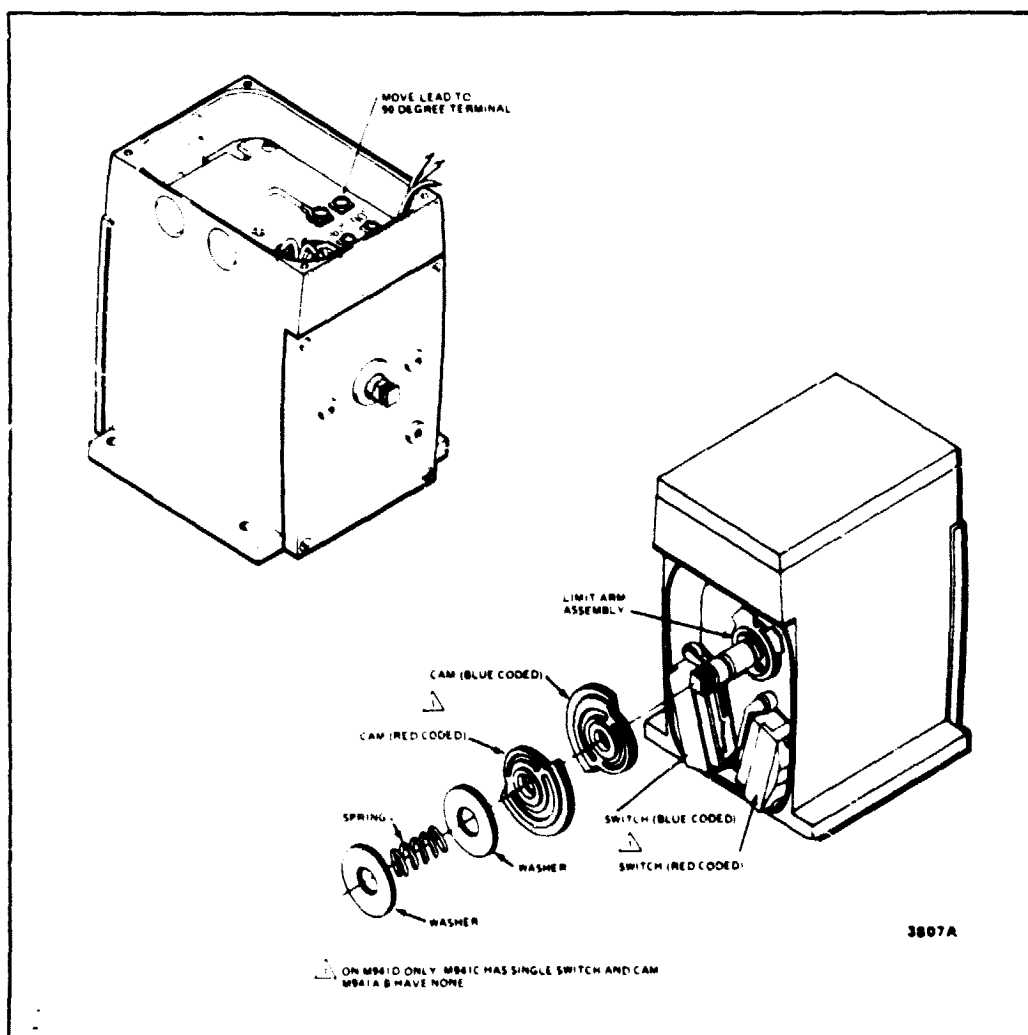
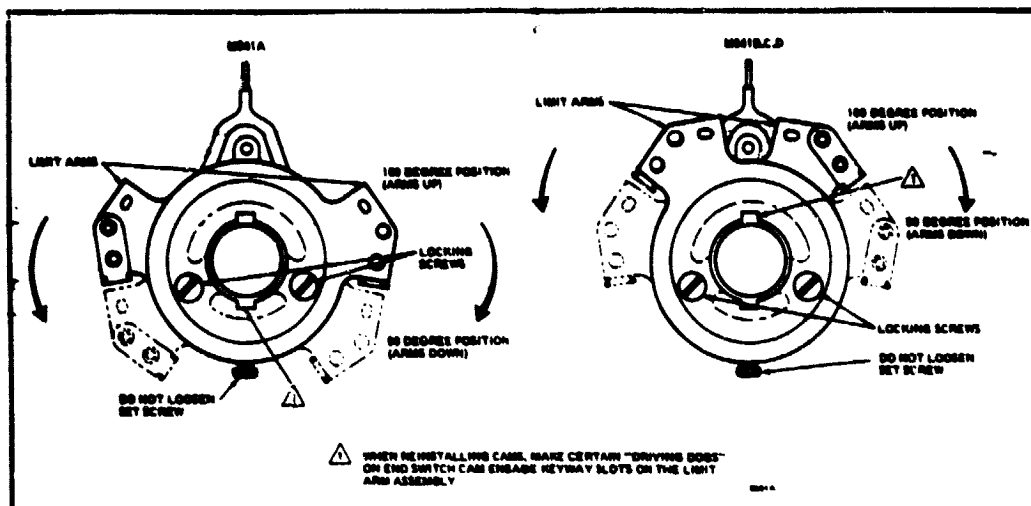

Fig. 1—Terminal connection; cam assembly.
FIG. 2—Limit arm assembly.
1. Run motor to midstroke and disconnect power. Remove cam from auxiliary end. Remove switch cams, if present (see Fig. 1). Be careful not to lose the two washers and spring. Loosen the two locking screws on limit arm assembly (see Fig. 2).
3. Change terminal in wiring compartment to "90 degrees" (see Fig. 1). Loosen screws labeled 160 and 90 degrees. Move spade terminal on end of lead from 160 to 90 degree screw terminal. Tighten screws.
2. Replace the washers and spring in the correct sequence shown in Fig. 1.